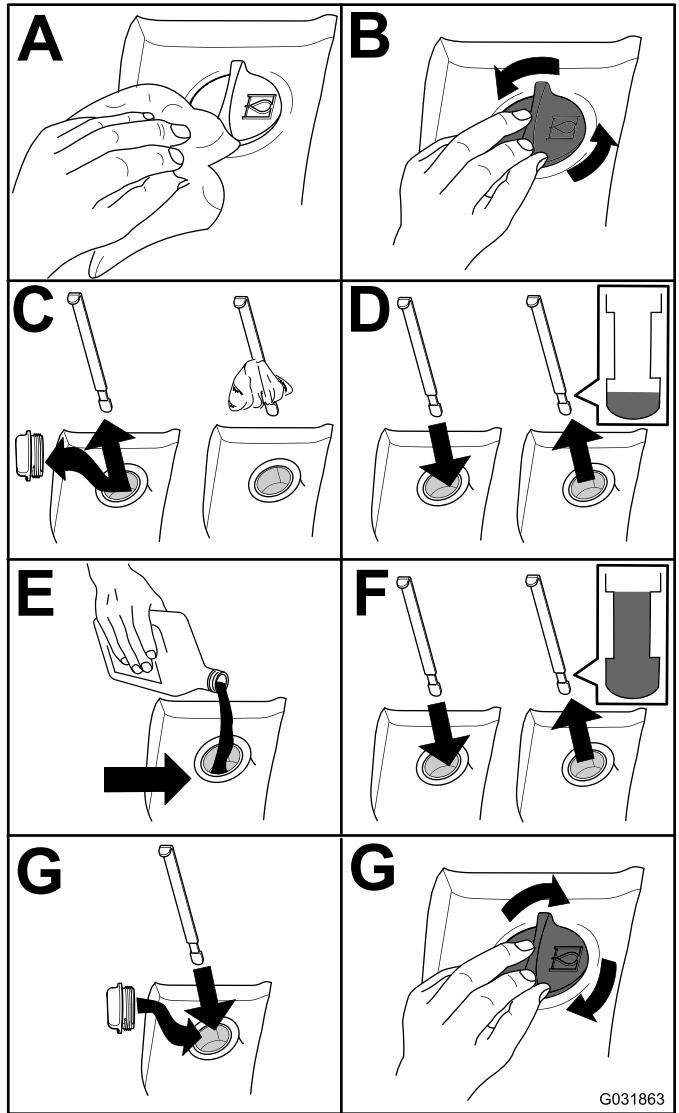

Figure 83
2. Check the hydraulic-fluid level (Figure 83).